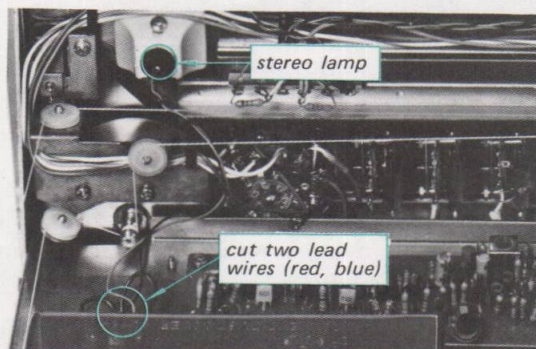

Fig. 2-10. Stereo lamp replacement
2. Unsolder the defective lamp leads from the connecting terminals as shown in Fig. 2-10, and then install a new one.